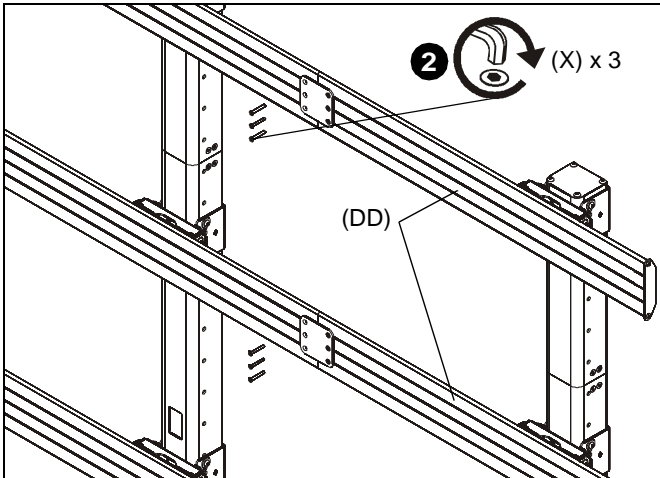

Figure 11
1. Install add-on rails (DD) to right column following instructions in Rails Installation section.
2. Use three #10-24 x 1 1/2" flat head cap screws (X) to attach each add-on rail (DD) to display rail (L). (See Figure 11)